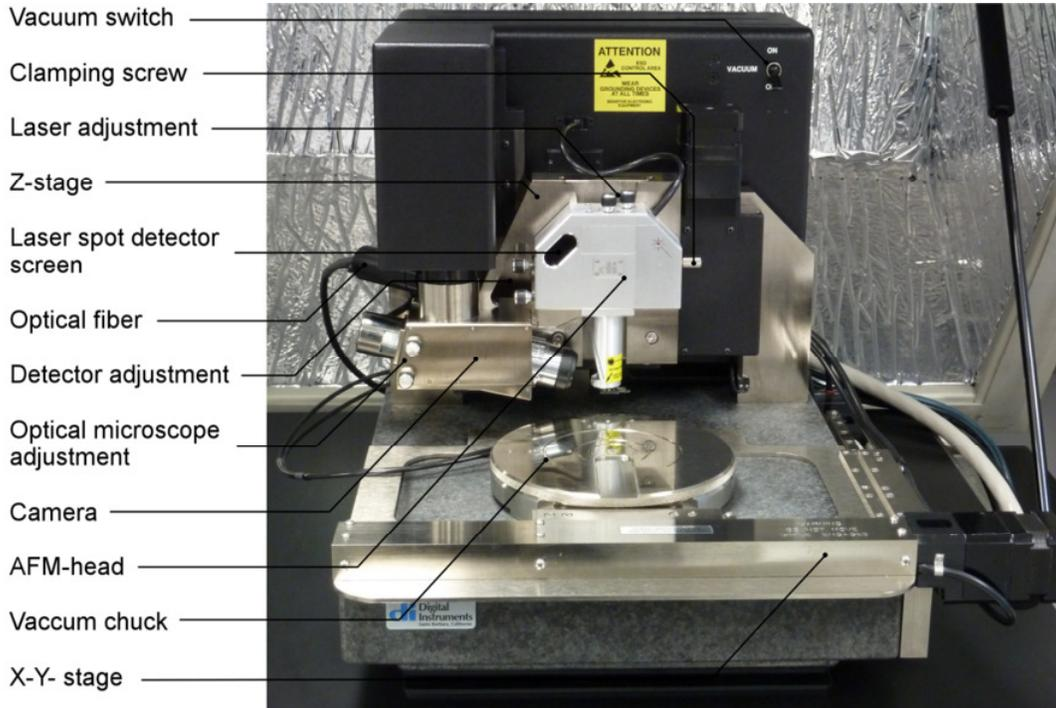

Figure 5 Dimension 3000 stage with labeling of the particular components
- 2.2. Loosen the AFM head (see Figure 5) by tightening the clamping screw (turn clockwise)
8. Switch on the chuck vacuum by the switch shown in Figure 5